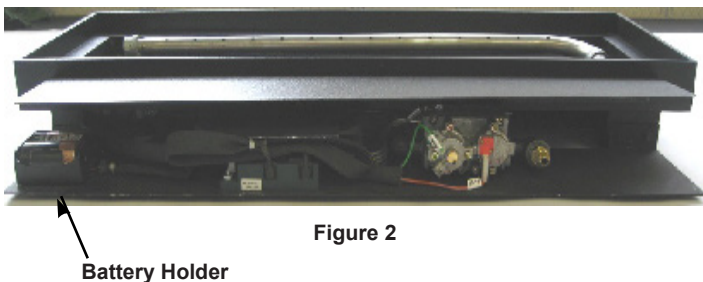

Figure 2
- IPI models include a battery box which holds 2 "D" size batteries. See Figure 2 for location of battery holder.